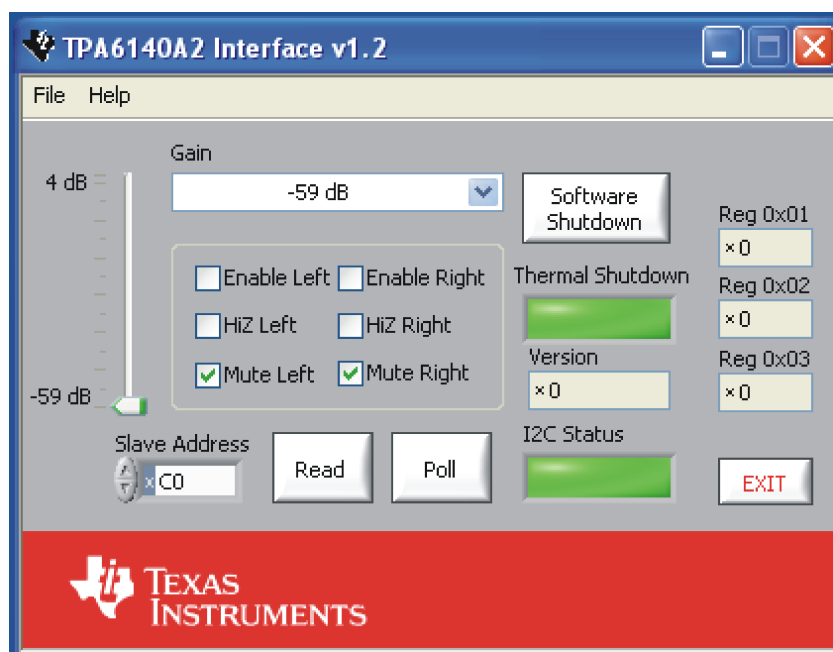

Figure 4. Software Interface
- The TPA6140A2 software interface is as shown in Figure 4.